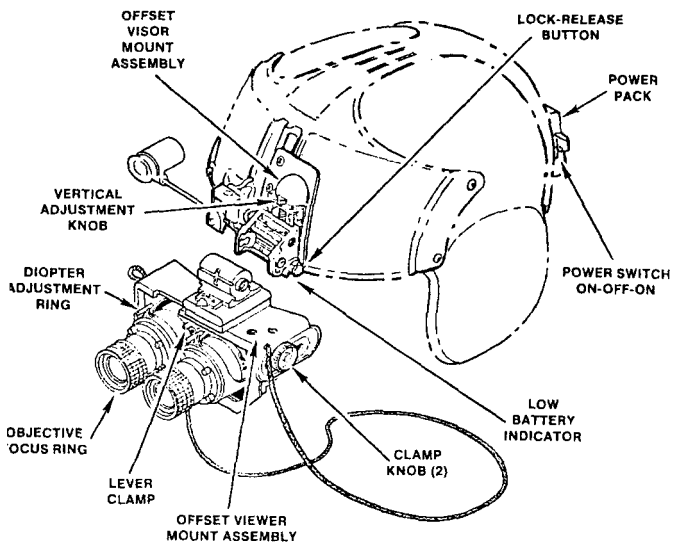

Figure 2-1. Controls and Indicators, GM-6(V)2, shown with AN/PVS-5C Binocular Assembly (GM-6(V)1 is similar)
a. The GM-6(V)1 AND GM-6(V)2 NVG are designed to attach to the aviators helmet and to correct for most differences in eyesight. The controls and indicators are the same. The difference is the GM-6(V)1 mounts in the center of the helmet and the GM-6(V)2 is offset mounted. Figure 2-1 and Table 2-1 describe the controls and indicators.